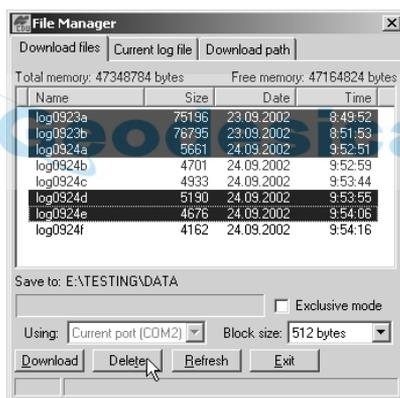

Figure 4-10. Delete Files
4. On the **Download files** tab, select the file(s) you want to delete (Figure 4-10).
5. Click **Delete** (Figure 4-10).